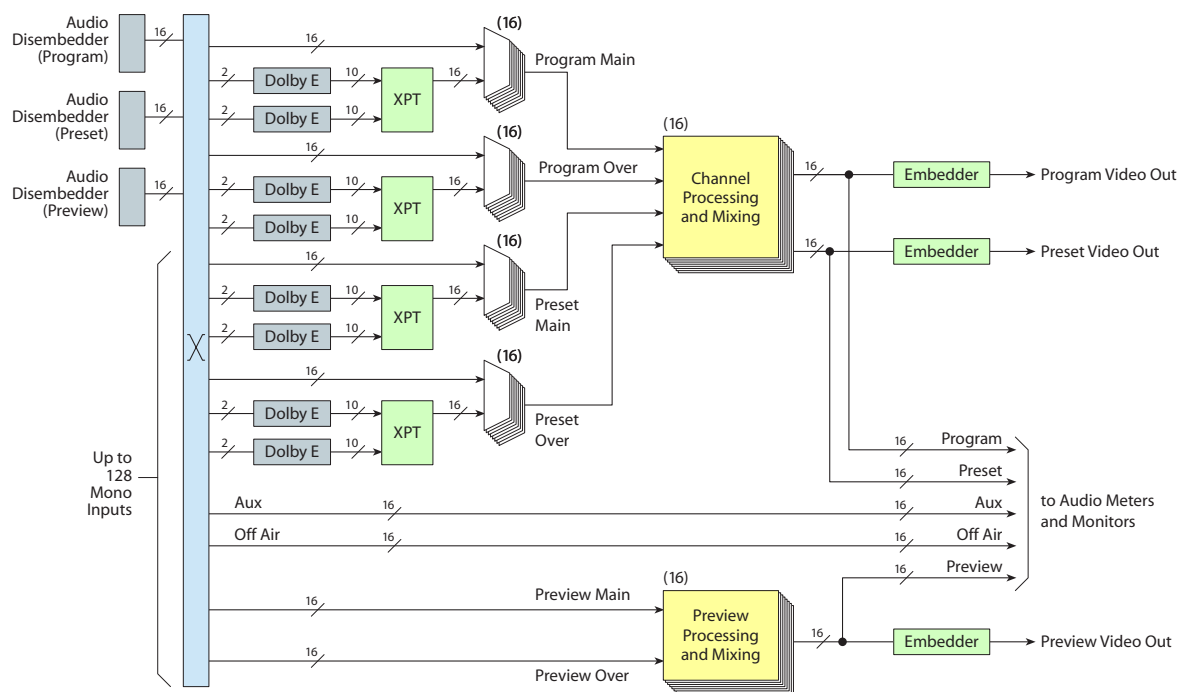

Fig. 5-2: Audio Processing Section (Dual Dolby for Program and Preset, Main Sources and Overs)
- Dual Dolby decoders supporting overs on the program and preset buses. (Refer to Figure 5-2.)
Figure 5-2 shows the schema for MCEs with dual Dolby decoders supporting program and preset main sources and program and preset overs: